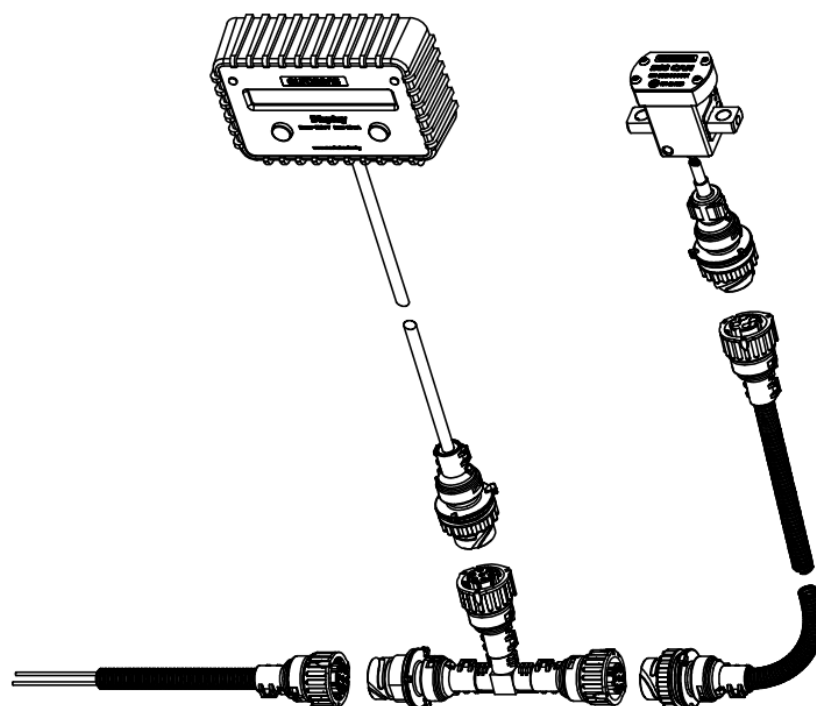

fig. 4.3. eurosens Display with eurosens DSS sensor
- Use eurosens Display CAN to display axle loads and cargo weight to a driver (fig. 4.3).